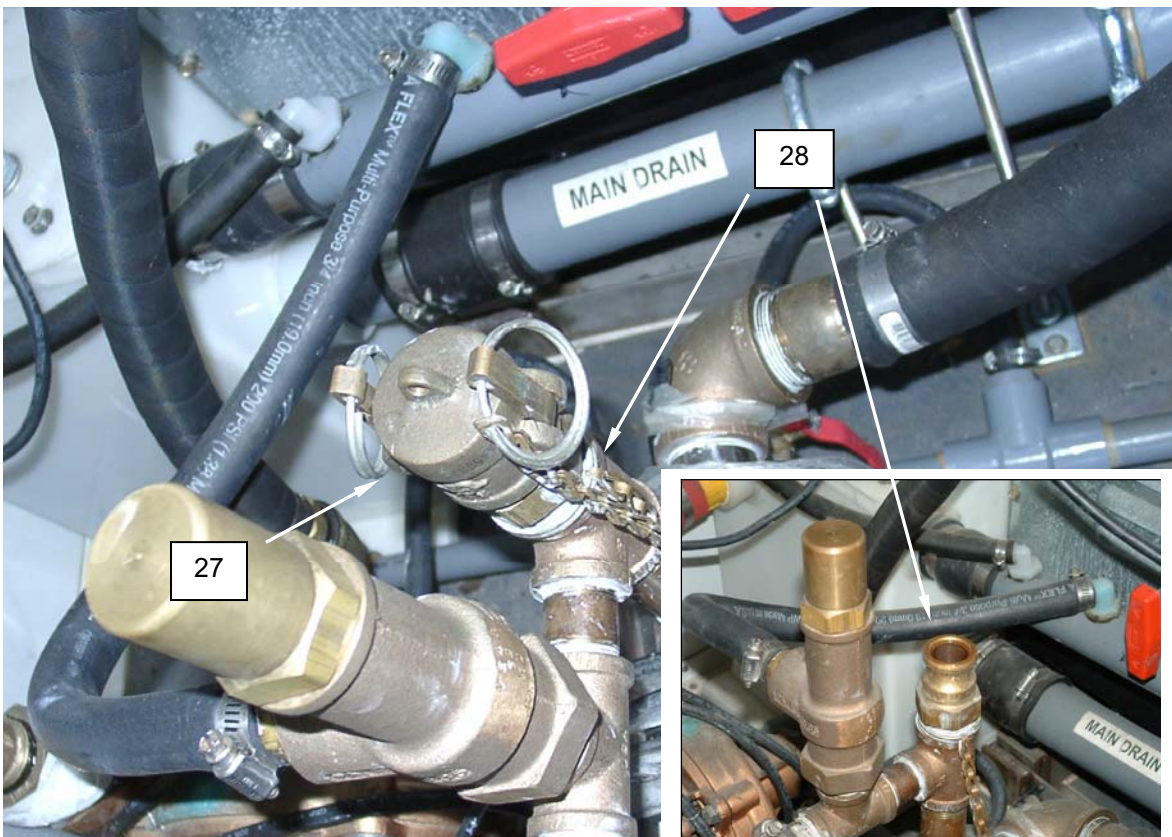

Figure 16. P-1 Pump Priming Standpipe.
3. Remove the QD cap (**Figure 16, Item 27**) from the priming standpipe (**Figure 16, Item 28**).
4. Pour approximately 1/2 gallon of source water into the open standpipe (**Figure 16, Item 28**).
5. Install the QD cap (**Figure 16, Item 27**) onto the standpipe (**Figure 16, Item 28**), and lock in place.